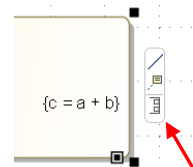
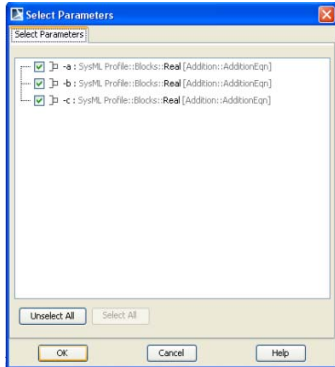

Figure 2.10
Figure 2.11 Select Parameters window
- ii. Use the Display Parameters icon (Figure 2.10) and SelectParameters window (Figure 2.11) to show parameters a, b and c.
Note: In general, Edit Compartment and Presentation Options provide control in displaying or hiding properties inside blocks, but displaying ports or parameters inside constraint blocks and constraint properties uses the floating toolbar icons like in Figure 2.10.